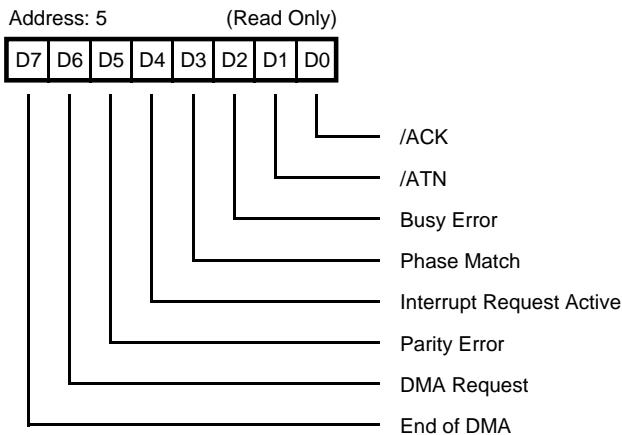

Figure 14. Bus and Status Register
**Bus and Status Register.** Address 5 (Read Only). The Bus and Status Register (Figure 14) is a read-only register which can be used to monitor the remaining SCSI control signals not found in the Current SCSI Bus Status Registers (/ATN and /ACK), as well as six other status bits. The following describes each bit of the Bus Status Register individually.